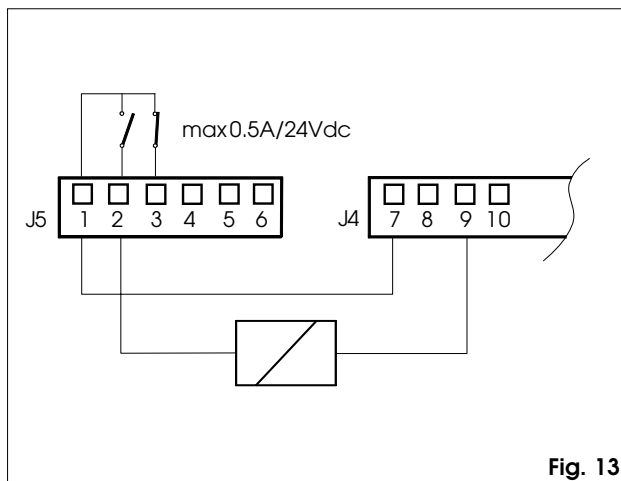

Fig. 13
⑥ J5 TERMINAL BOARD Connection to relay Outputs (figs. 13,14,15)**Description of the terminal board****1 Electric lock - Common****2 Electric lock - N.O. Contact (max. capacity 0.5 A/24 V) (fig.13).**